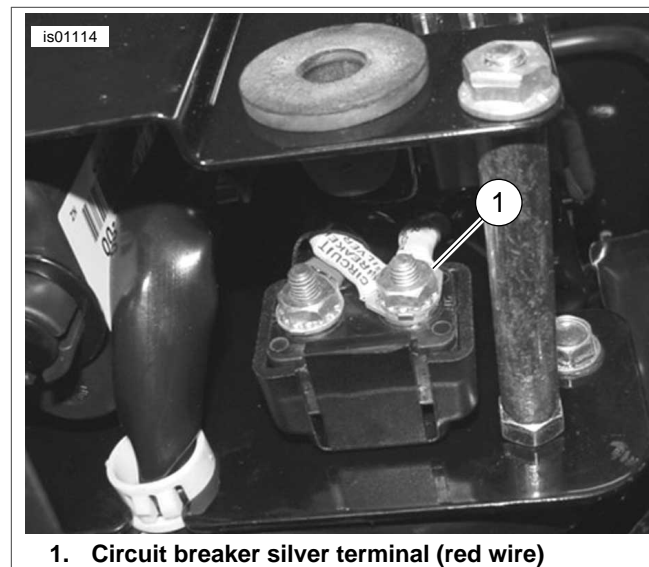

Figure 16. Dyna Connections (2003 and Earlier Models), Bottom View with Left Side Cover Removed
- See Figure 16. Route the heated hand grip harness red wire through the top of the frame under the seat to the circuit breaker on the inside of the electrical side cover.